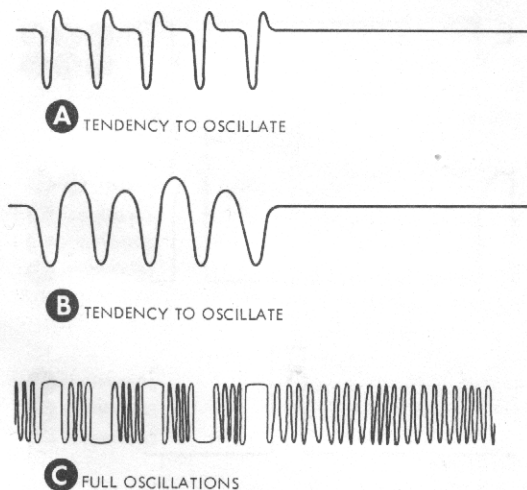

Figure 22. Typical Oscillation Waveforms
i. Oscillations in the I.F. stages and at CR3 will appear as waveforms different from those shown in figures 4 and 5. Typical examples of oscillations which might appear at test point ⑧ are illustrated in figure 22.